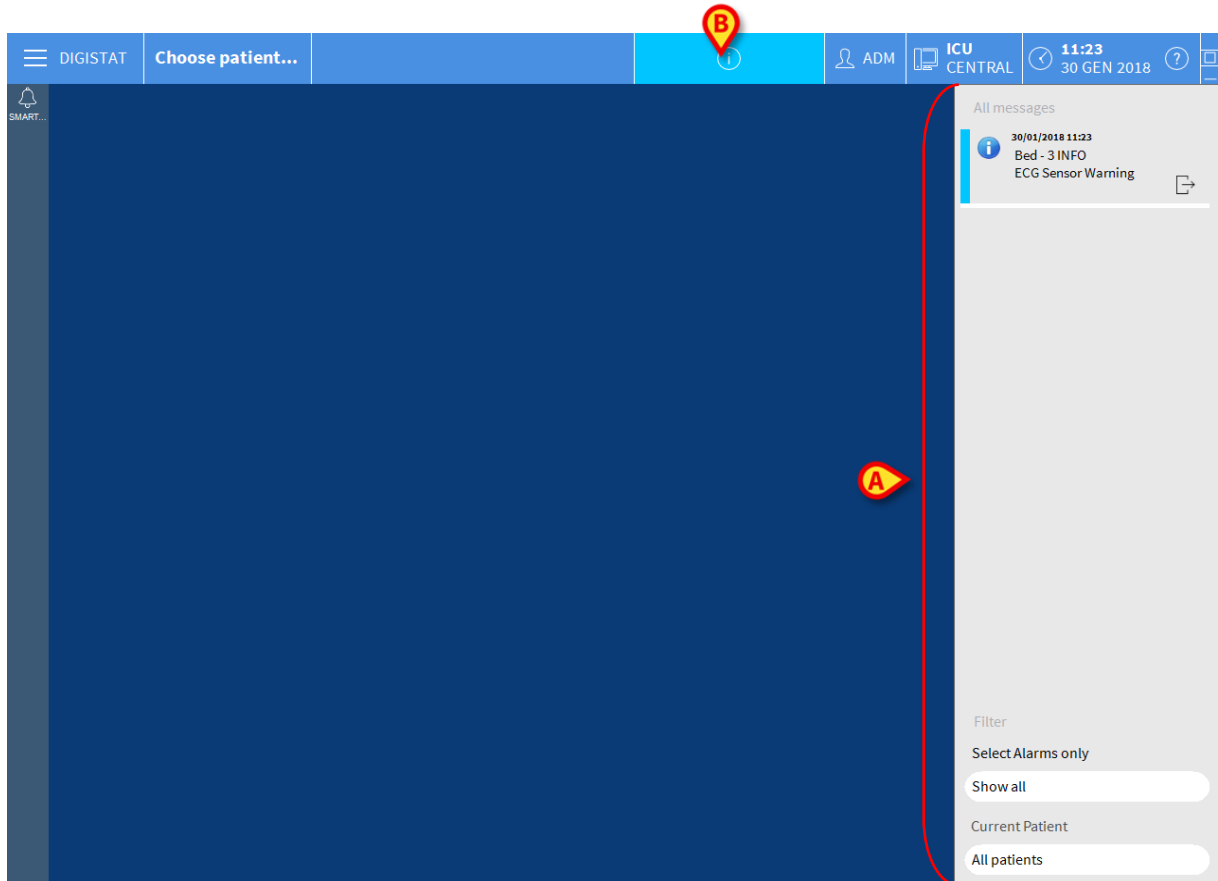
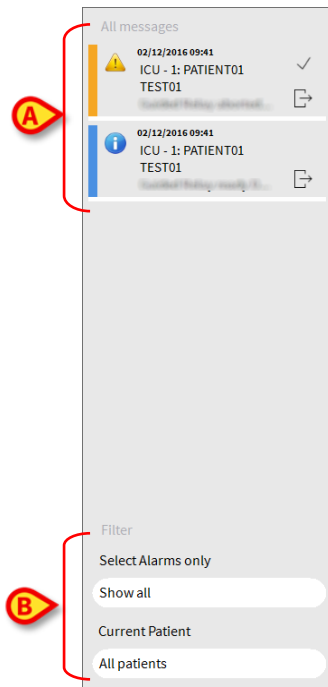

Fig 11
Fig 12
A notification area is displayed on the right of every Infusion screen, reporting various notifications, such as warnings, alarms and information sent by the connected pumps (Fig 11 A, Fig 12).
- Only visible after user click on the DIGISTAT[®] button on Control Bar (Fig 11 B).
The different messages are displayed in chronological order, (most recent on top - Fig 12 A) and by criticality (alarms on top, then warnings, then info).
At the bottom of the area, four different filters are available, making it possible to choose the type of message to be displayed (Fig 12 B). The available filters are: